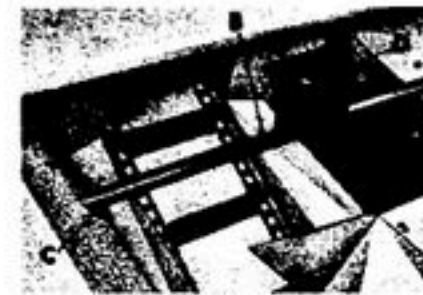

Figure 40
Figs. 40, 41 & 42 - When installing the secondary beater on the No. 325 Picker, the upper beater shaft "A" (Fig. 42) must be replaced with a longer shaft (35-1/8" long) found in the secondary beater bundle. When installing the secondary beater on a No. 324 Picker, the upper beater (described in Figs. 44, 45 & 46, Page 21) must be installed first. However, the 42-1/8" long shaft also found in the secondary beater bundle must be installed when installing the upper beater.
1. Insert lower beater shaft "B" (Fig. 40) through holes as shown.
2. Place anti-wrap pipes "C" (Fig. 40) on shaft from outside in (long pipes for 324, short pipes for 325).
3. Attach beater blade "D" (Fig. 40) to shaft using 5/16 x 1-3/4" machine bolts.